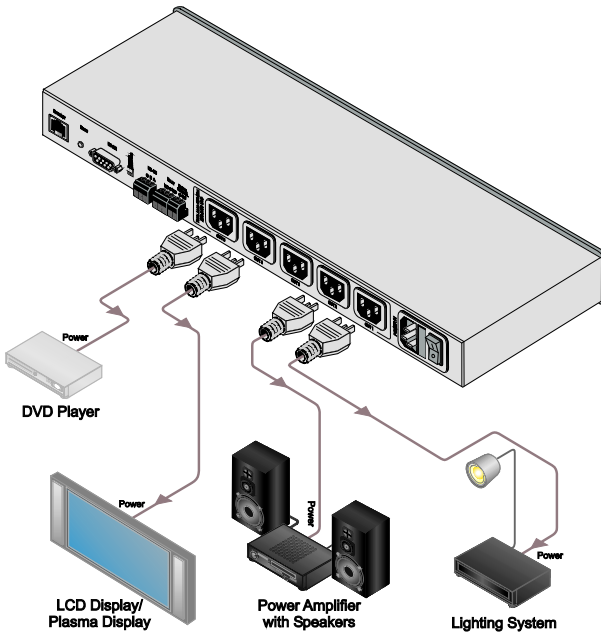

Figure 4: Connecting the PL-50
To connect the **PL-50**, as illustrated in the example in Figure 4, do the following¹:
3. Connect an item (for example, an alarm) via the RELAY and/or DIGITAL CONTROL terminal block connectors (not shown in Figure 4).
5. Connect the power cord³ (not shown in Figure 4).